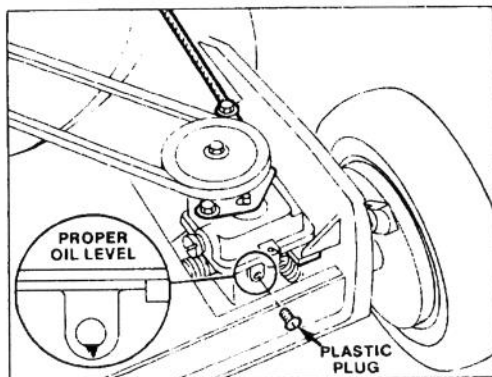

Figure 18
2. CHECKING GEAR OIL LEVEL (Fig. 18) — Position mower on level surface and clean around plastic plug. Remove plastic plug and watch for oil to ooze out of hole. If gear oil oozes out, quickly install plastic plug because oil is at proper level. If oil does not flow, add gear oil: see step 3.